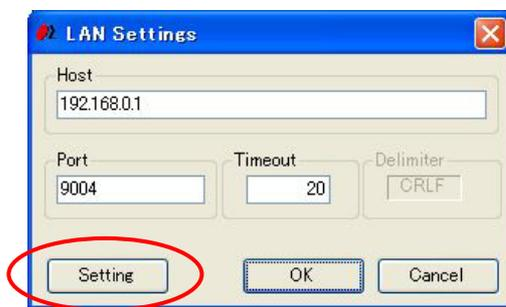
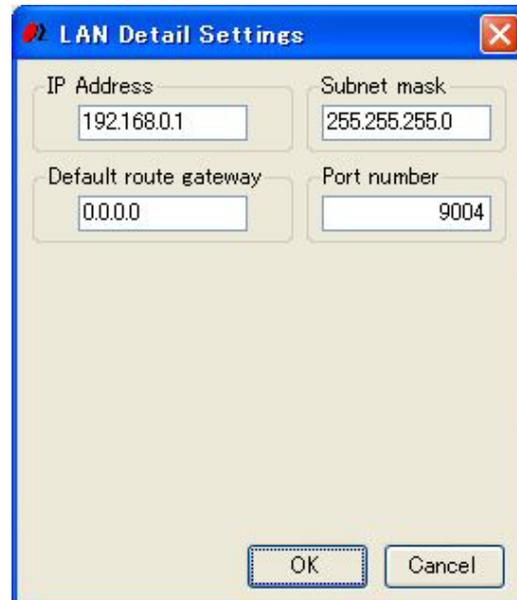

Fig.3-3 : Communication settings
Fig.3-4 : LAN settings
4. Please open communication setting screen (Fig.3-3) from Fig.3-2“Communication”.
5. LAN settings (Figure 3-4) will pop up by clicking "Settings" on Communication settings (Figure 3-3).
6. Click OK after setting IP address on Figure 3-4 LAN settings in accordance with PC condition.